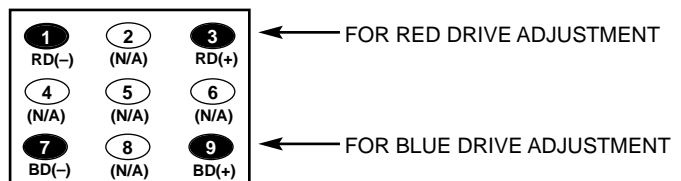

Figure 5. Remote Control Number keys' function in Service Menu No. 041 DRV
12. Adjust Red and Blue Drive Levels alternately with 1, 3, 7, or 9 key to produce normal black and white picture in highlight areas. (See figure 5 below.)